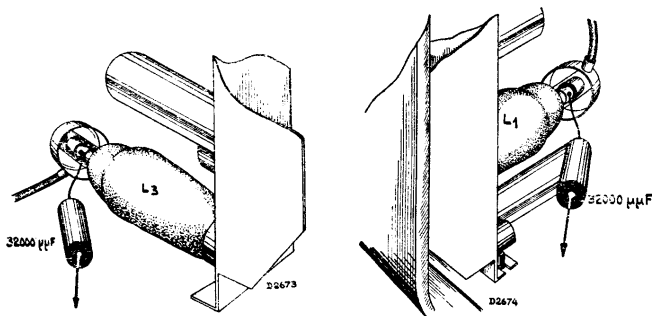
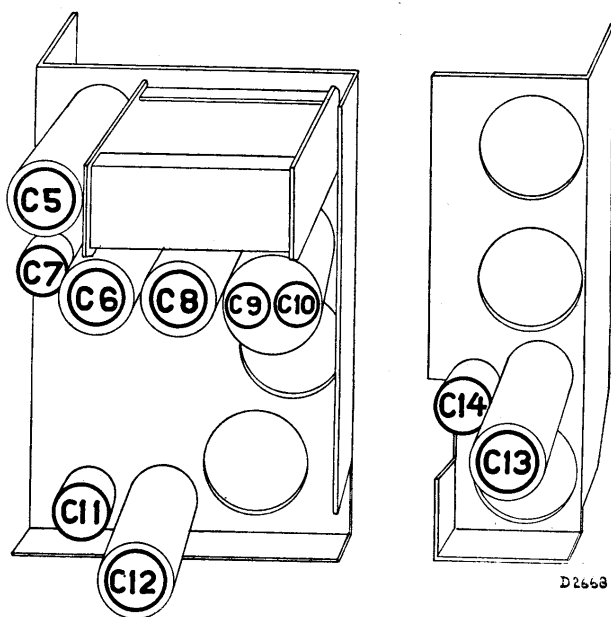

Fig. 2.
Fig. 4.
4. Apply modulated 128 K.C. signal through a 32,000  $\mu$ F (Fig. 2) to the control grid of L3.
5. Trim C13 and then C14 (Fig. 4) for maximum output.
7. Apply modulated signal of 128 K.C. via 32,000  $\mu$ F to grid 1 of L1 (Fig. 2) and trim C12 (Fig. 4) for maximum output.
5. Trim C9, C8, C6, C8, C9 (Fig. 4) for maximum output.